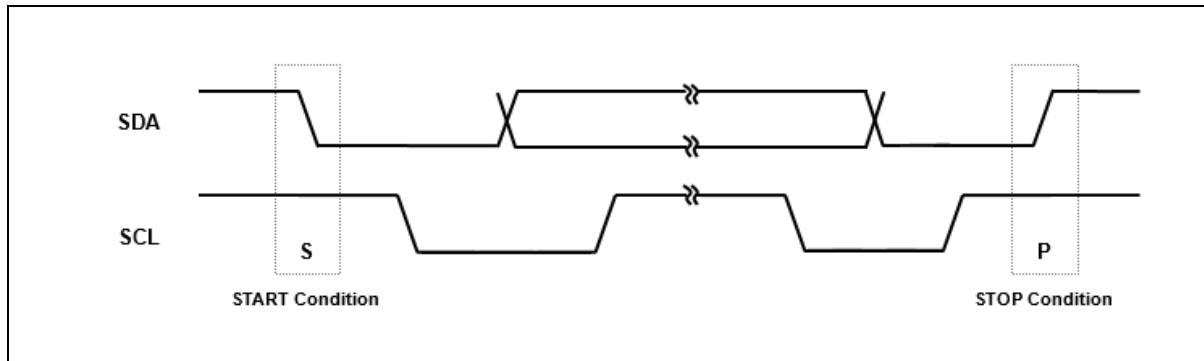

Figure 59. START and STOP Conditions
Within the procedure of the I²C-bus, unique situations arise which are defined as START(S) and STOP(P) conditions (Refer to Figure 59).